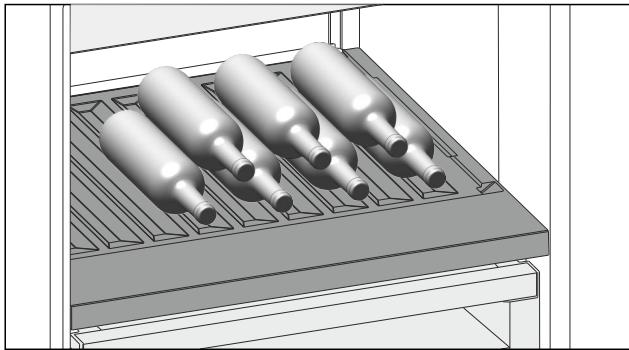

Fig. 117
- ▶ Place bottles in the back row with their bases against the back wall. (see Fig. 117)